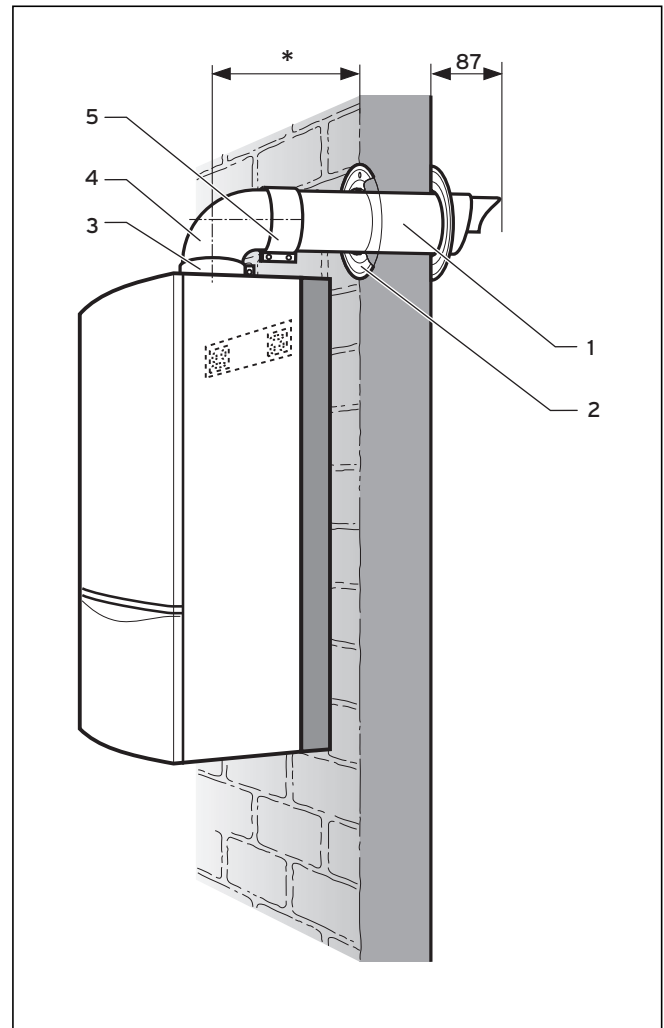
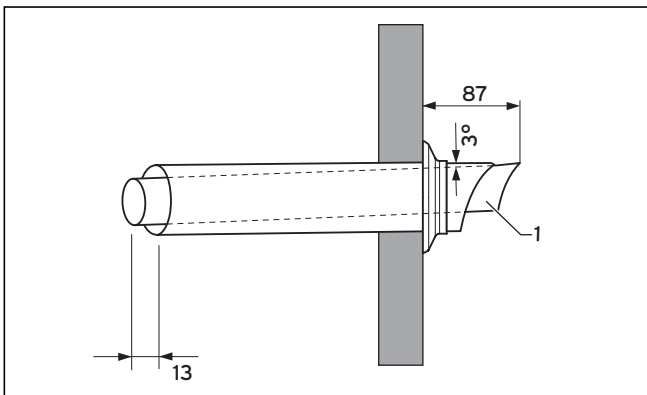

Fig. 2.12 Assembly of the boiler
Fig. 2.16 Assembly of the horizontal wall breakthrough
secure using the 30 mm air duct clamp (3) provided (fig. 2.12).
- Fit the 48 mm air duct clamp (5) ensuring that it is positioned centrally (fig. 2.12).
- Push the air/flue duct assembly (1) including the flexible external seal through the wall until the seal clears the outside face of the wall and pull air/flue duct back towards the boiler until the external seal touches the outside wall (fig. 2.12 and fig. 2.16).
- Ensure that the air/flue duct (1) is centred in the hole and the terminal is correctly positioned with the inlet grille at the bottom (fig. 2.12 and fig. 2.16).
- Slide the internal trim ring (2) over the air duct until it is flush with the wall (fig. 2.12).
- Fit the elbow (4) to the boiler by inserting the spigot of the flue elbow into the flue socket on the boiler and